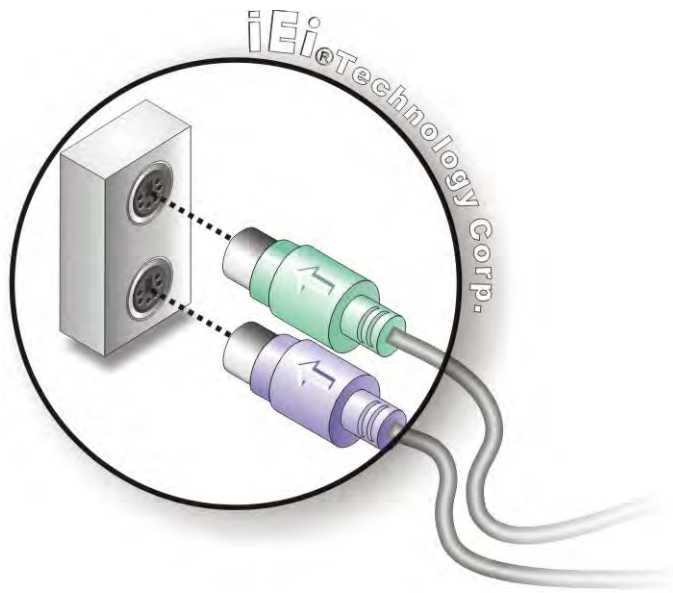

Figure 4-17: PS/2 Keyboard/Mouse Connector
Step 2: **Insert the keyboard/mouse connector.** Insert a PS/2 keyboard or mouse connector into the appropriate PS/2 connector on the external peripheral interface connector. See **Figure 4-17**.